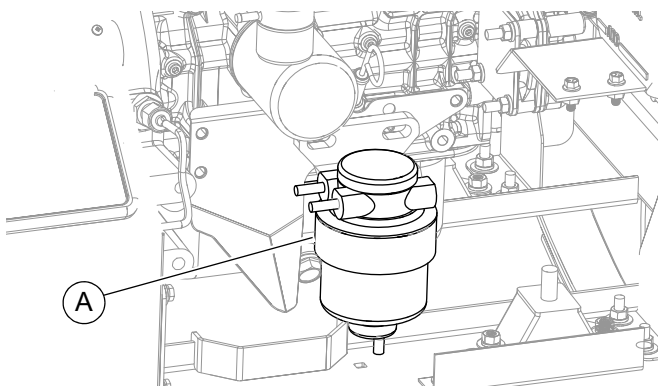

Figure 2-7. Heated Fuel Filter
See Figure 2-7. An optional heated fuel filter (A) prevents diesel fuel from gelling in extremely cold temperatures. Heating cycles are automatically controlled by the Power Zone-DLA.